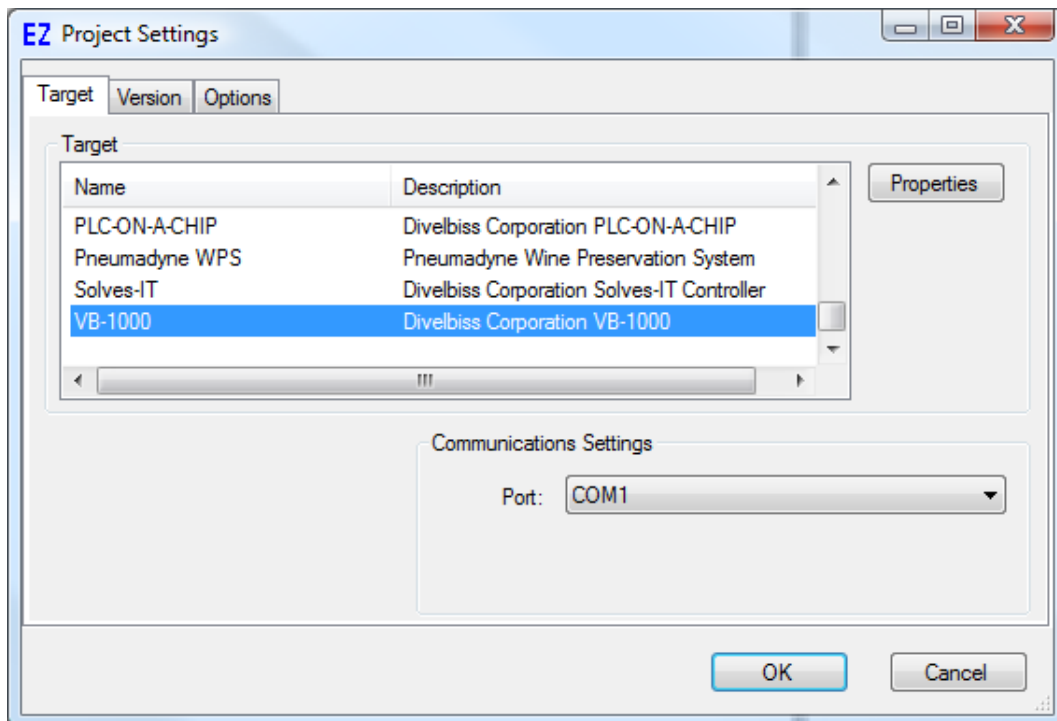

Figure 1.3 - Project Settings Window
1. In EZ LADDER, from the File Menu at the top, click **PROJECT** then **SETTINGS**. This will open the Project Settings Window. Select **VB-1000** as the target from the choices. Refer to Figure 1.3.